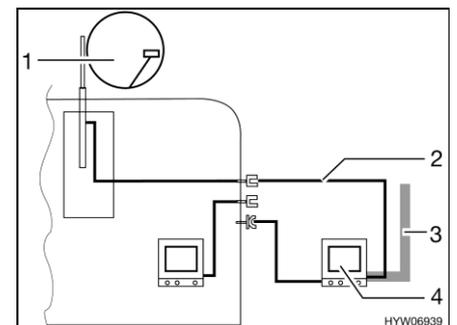

Fig. 135 TV in the awning
- TV inside the awning (Fig. 135,4): Connection to roof antenna (Fig. 135,1) with connection cable (Fig. 135,2)
- TV inside the awning (Fig. 135,4): Connection to external antenna (Fig. 135,3)